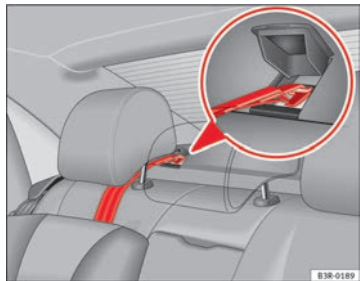

Fig. 35 Retainer strap:
- Lead the Top Tether fastening belt under the rear seat head restraint ⇒ fig. 35 (lift the head restraint where necessary).
- Lift the anchorage cover on the rear shelf -see detail- ⇒ fig. 35.